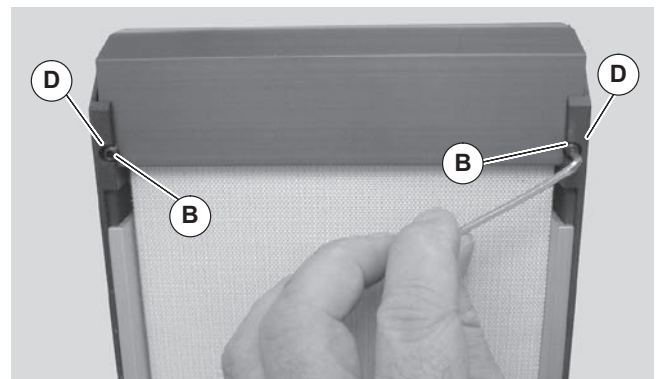

Figure 4
4. Insert two (2) set screws (Figure 4, item B) through access notches (D) and into transfer plate (A). Tighten to 28 in-lb (3 Nm).